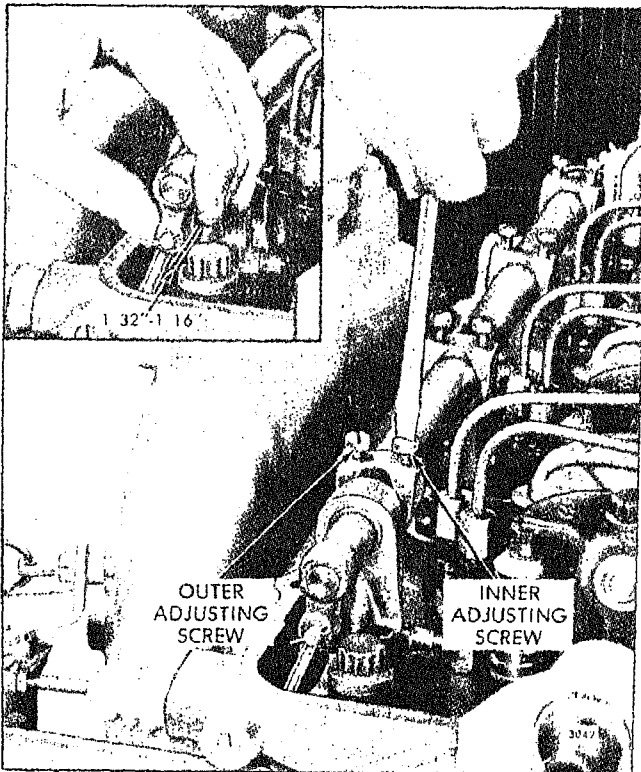

Fig. 3 - Adjusting Injector Rack Control Lever Adjusting Screws
5. Adjust the rear cylinder injector rack control lever adjusting screws (Fig. 3) until both screws are equal in height and tight on the injector control tube.